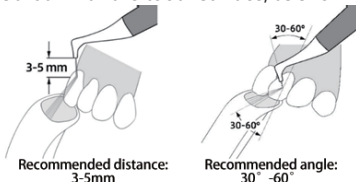

Figure 7 Schematic diagram of supragingival air polishing
3.2.1.3 When using an Dental Air Polisher for normal air polishing, it is recommended that the spray-head air outlet and the tooth surface be kept at a distance of 3-5mm, and the air polishing direction is recommended to be at an angle of 30-60° with the tooth surface, as shown in Figure 7.